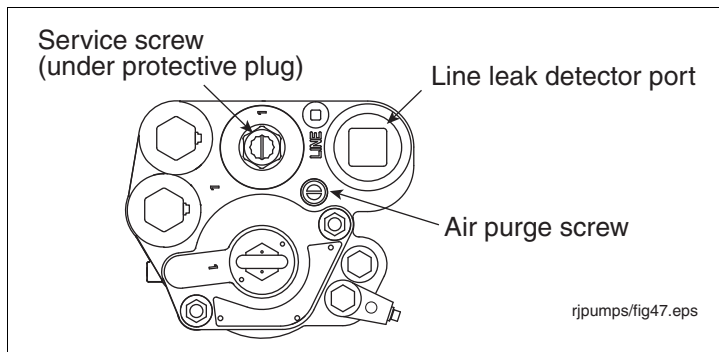

Figure 31. Locating Discharge Port Plug For Line Leak Transducer
6. Open the air purge screw 2 - 3 turns counterclockwise (see Figure 31).